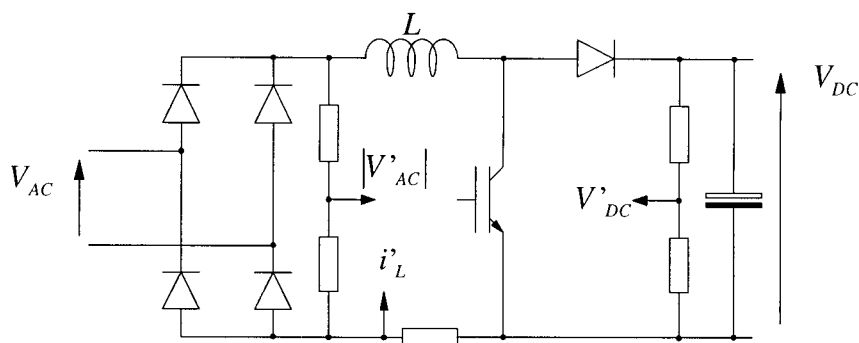

Figure 5.1 A single-phase AC/DC converter
5. (a) Figure 5.1 shows a single-phase AC/DC converter based on a Boost switch-mode power supply. Sketch the shape of the current waveform drawn from the AC source (assuming that a suitable control circuit has been provided) and describe its frequency spectrum. Sketch the shape of the instantaneous input power.
- (b) (i) Give expressions for the change in current in the inductor in Figure 5.1 during the on-time and during the off-time of the switch.
- (c) Consider the circuit of Figure 5.1 operated with an output voltage of 400 V and supplying a 200 W load that draws a constant current. Assuming the circuit is ideally (100%) efficient, compare the instantaneous power supplied to the capacitor to the power drawn by the load. For a capacitor of 500 μ F, estimate the voltage variation that results from the instantaneous power variation.